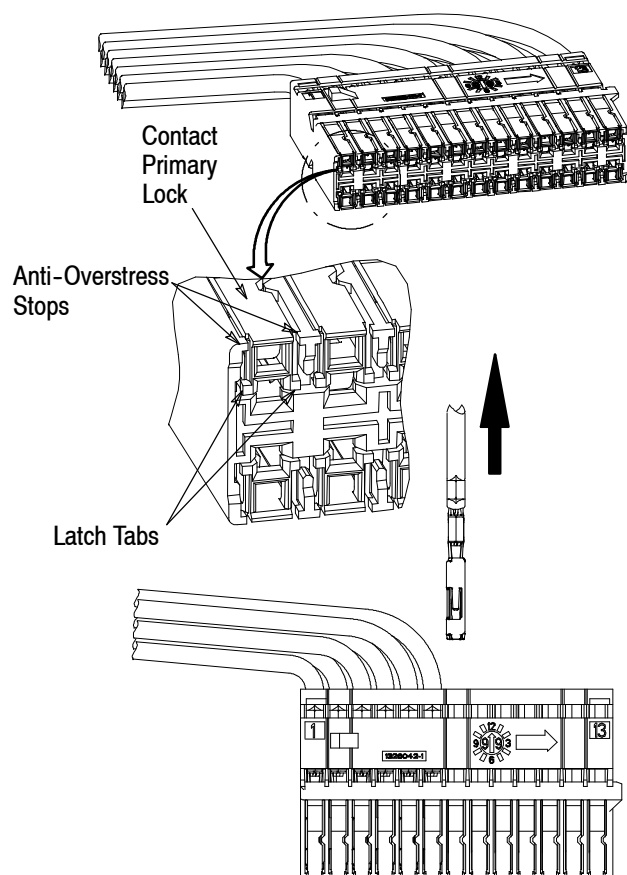

Figure 9
4.3. Removing Contacts from Receptacle Carrier (Figure 9)